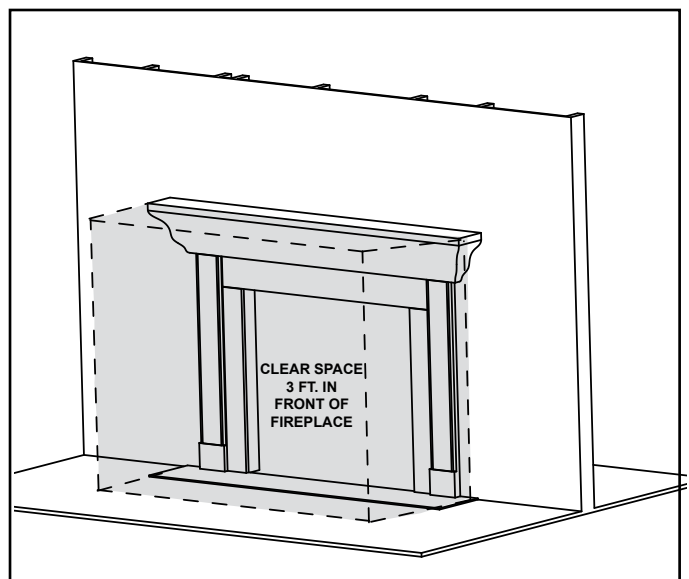

Figure 3.1 Clear Space
**WARNING! DO NOT place combustible objects in front of the fireplace or block louvers.** High temperatures may start a fire. See Figure 3.1.